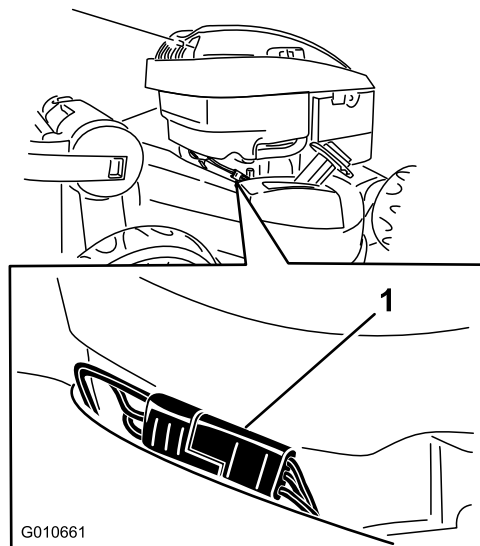

Figure 2
7. Disconnect the engine connector from the old wire harness from behind the engine (Figure 2).